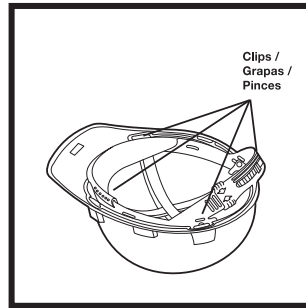

Figure 2
- Push each of the four clips into its slot (Figure 2). You should feel and hear them snap into place.